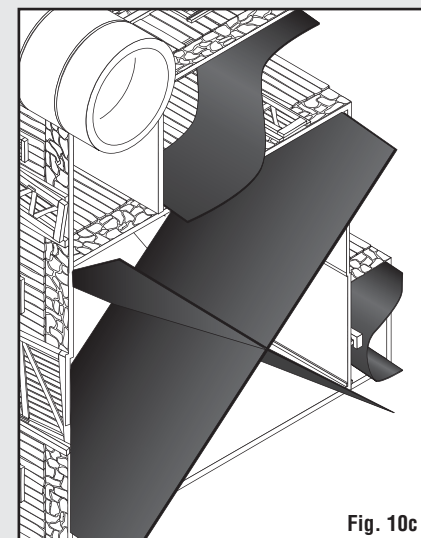

Fig. 10c
- Insert strips into building (**Fig. 10c**). If needed, add a drop of glue at the corner of each strip to hold in place.